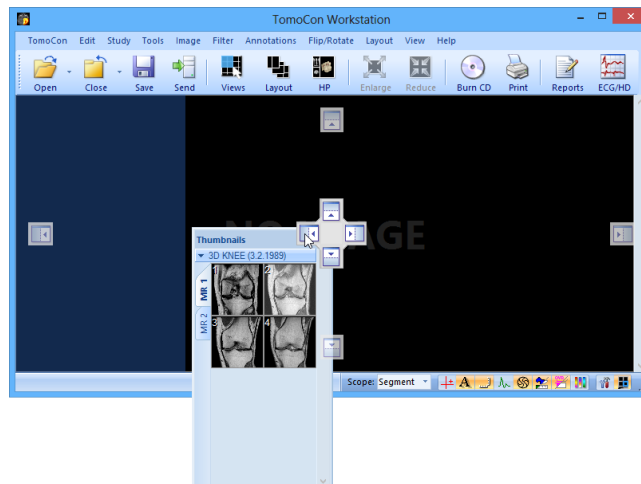

Figure 24 – Docking thumbnails palette to the left side of TomoCon
2. Move the panel over the left docking navigator . A new docking position for the thumbnails palette will be displayed in translucent blue (see Figure 24).